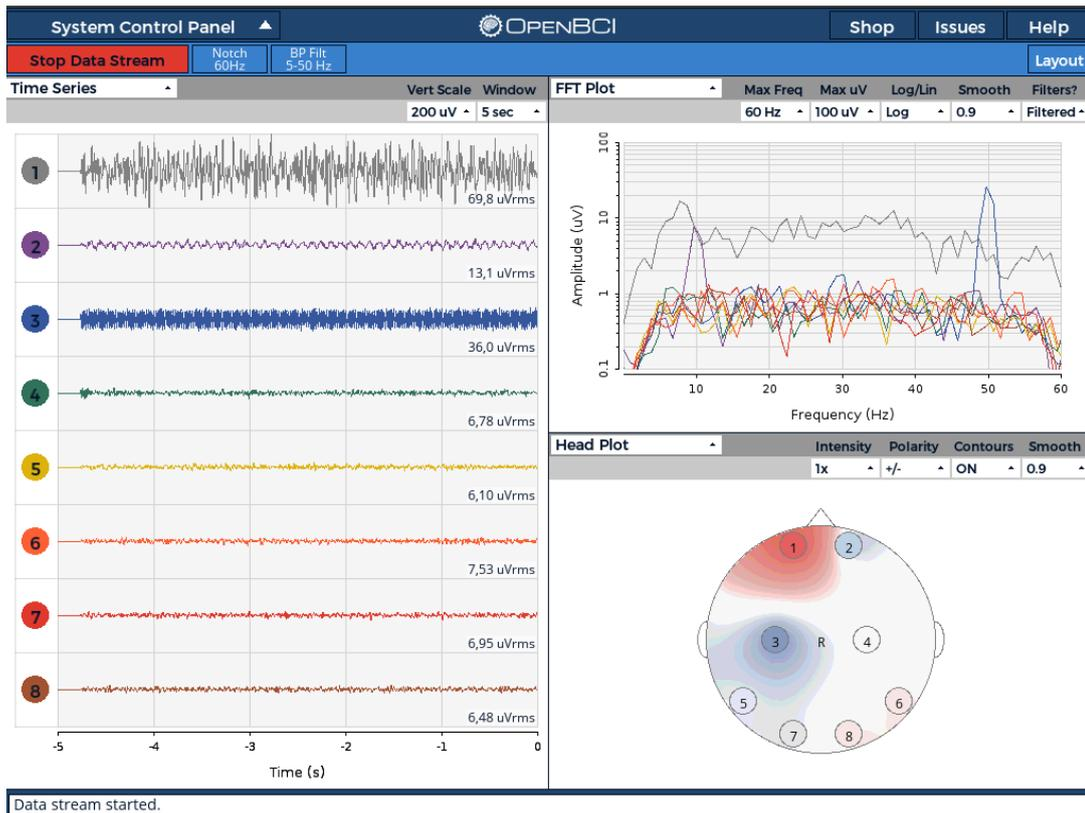

Figure 1: OpenBCI GUI with synthetics data stream.
6. Select SYNTHETIC and press the START SYSTEM button. You should now see some brain waves like in Figure 1.